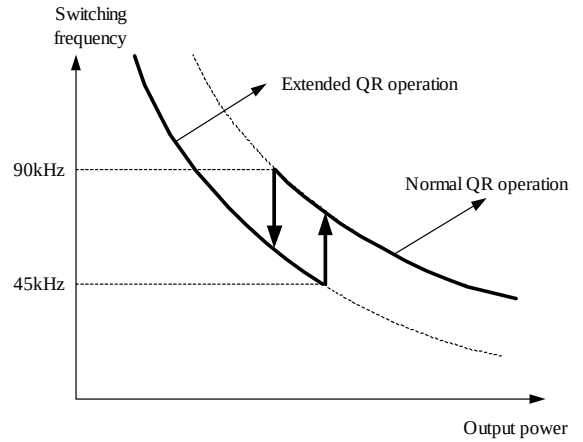
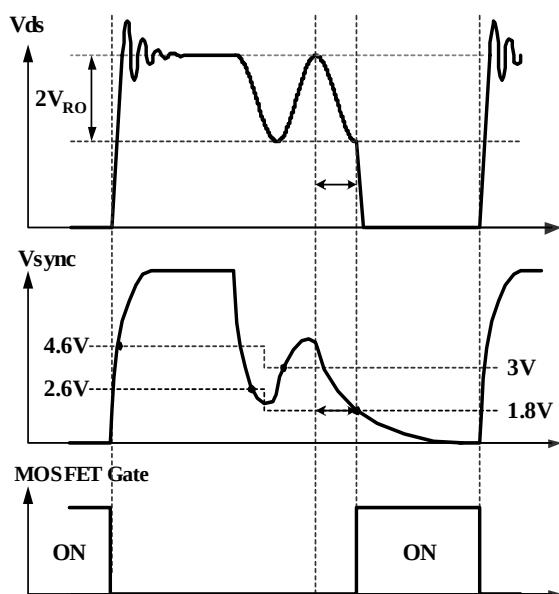
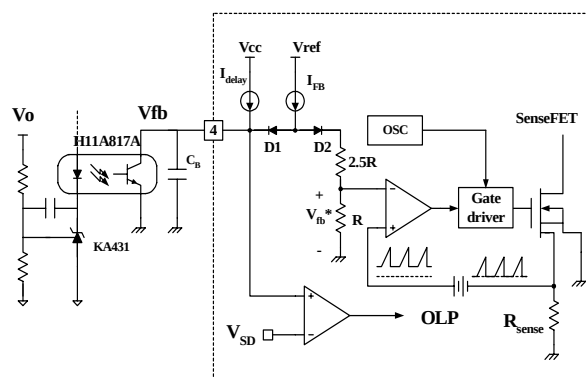

Figure 6. Extended quasi-resonant operation
Figure 7. Extended quasi-resonant operation waveforms
Figure 8. Pulse width modulation (PWM) circuit
2. Synchronization : FSCQ1565RP employs quasi-resonant switching technique to minimize the switching noise and loss. In this technique, a capacitor (Cr) is added between the MOSFET drain and source as shown in Figure 6. The basic waveforms of quasi-resonant converter are shown in Figure 7. The external capacitor lowers the rising slop of drain voltage to reduce the EMI caused when the MOSFET turns off. In order to minimize the MOSFET switching loss, the MOSFET should be turned on when the drain voltage reaches its minimum value as shown in Figure 7.
The minimum drain voltage is indirectly detected by monitoring the Vcc winding voltage as shown in Figure 6 and 8. The voltage divider R_{SY1} and R_{SY2} should be chosen so that the peak voltage of sync signal (V_{syph}) is lower than the OVP voltage (12V) in order to avoid triggering OVP in normal operation. It is typical to set V_{syph} to be lower than OVP voltage by 3-4 V. In order to detect the optimum time to turn on MOSFET, the sync capacitor (C_{SY}) should be determined so that T_R is the same with T_Q as shown in Figure 8. The T_R and T_Q are given as, respectively